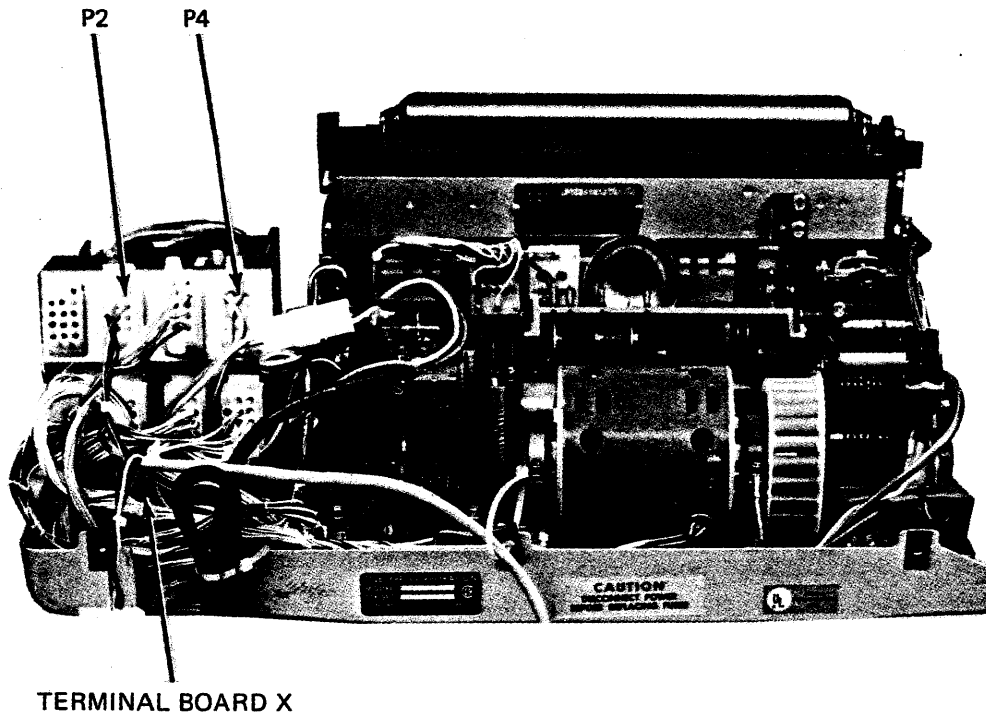

Figure 3-40 KSR-33 Terminal Board X
1. Locate terminal board X under the mate-and-lock connectors at the left of the console, viewing the console from the rear (see Figure 3-40).
The current mode console adapter cable (60128478-014) that plugs into P2 (see Figure 3-40) of the KSR is a 4-wire cable. To check if the KSR is equipped for current mode operation, look at P2. If P2 was altered (via an adapter, etc.) to accept a different connector, then the KSR is not wired for current mode and must not be used with the system.